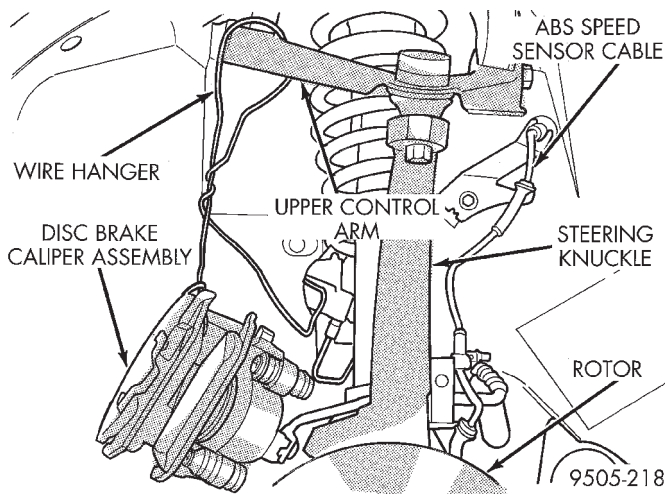

Fig. 86 Storing Caliper
(6) Support brake caliper from upper control arm to prevent weight of caliper from being supported by brake flex hose. Supporting disc brake caliper from flex hose can damage the hose (Fig. 86).